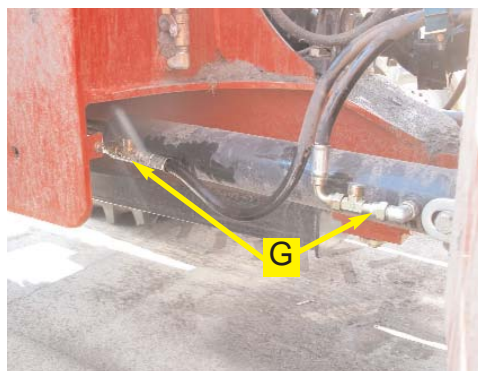

Figure 6b. Steering output fittings installed.
- b. Install the run tees (**G**) into the steering lines at each end of the steering cylinder as shown. (Figure 6b.)